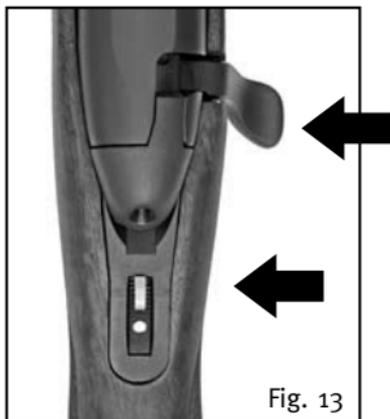

Fig. 13
**Lock Position + Firing Pin Safety** (Fig. 13):